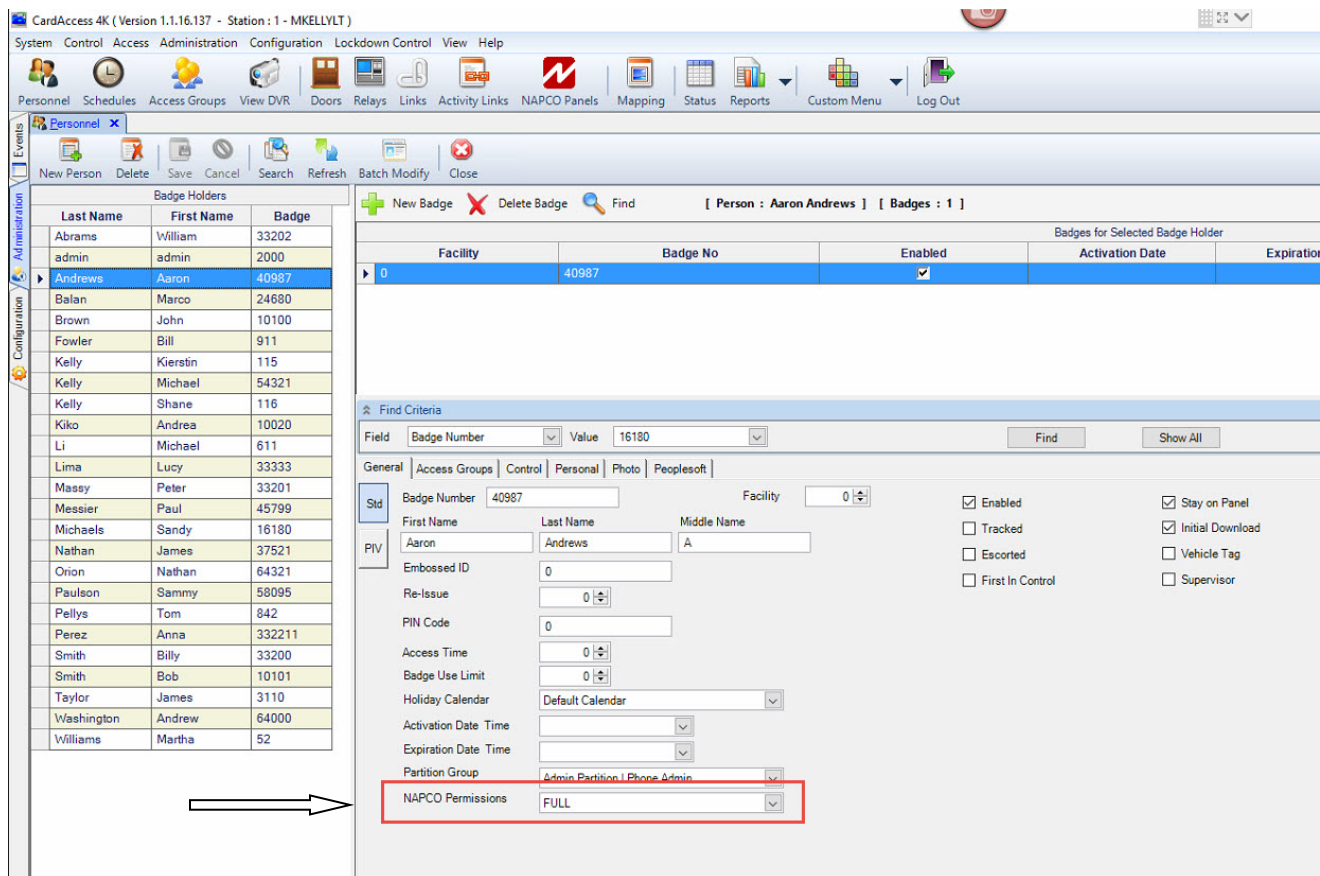

Figure 14.
10. Configure the **CA4K Personnel** badge record for the correct **NAPCO Permission** (Refer to Figure 14).